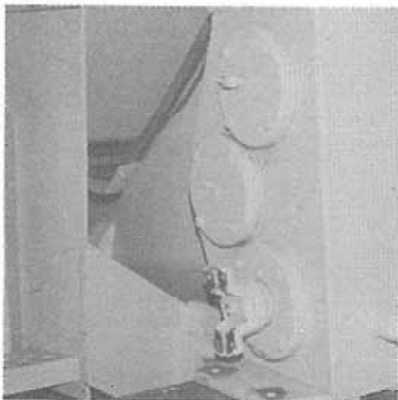

Figure 7:
9. Remove the transfer case assembly from the tractor using a forklift or hoist (Fig. 7).